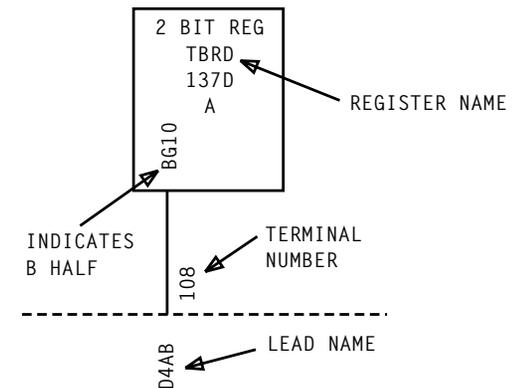

Figure 2 - Example of Lead Leaving B Half of a CPS Register
8. At gate, note lead name and terminal leaving gate to outside of pack [Figure 2]